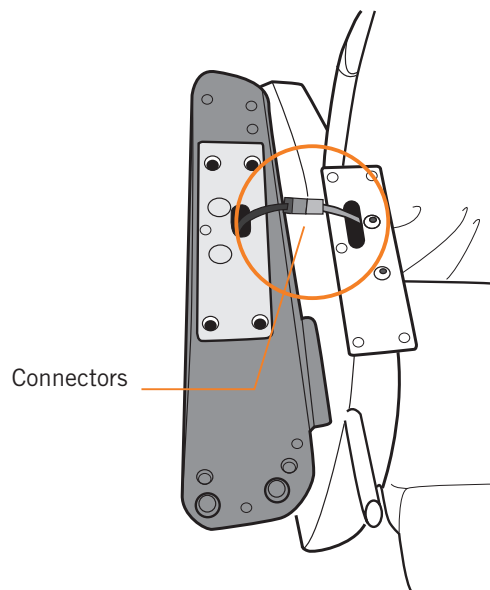

Fig.6
2. Connect the armrest core connector to the armrest connector (Fig.6).